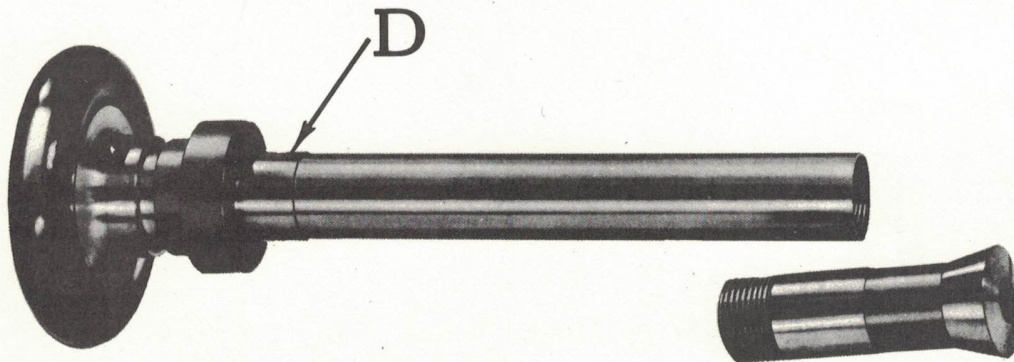

Fig. 5 Collet and Draw Bar
When the draw bar is used a film of machine oil should be applied to the draw bar where it bears in the spindle (D) Fig. 5. Be sure the spindle at (C) is absolutely clean as a little dirt here can do a great deal of damage.